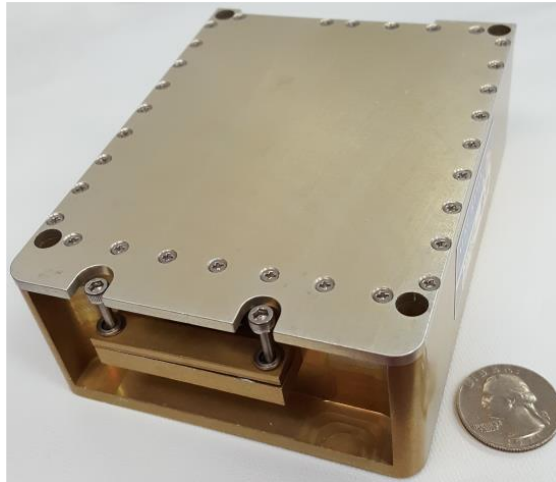

Figure 1: Vampire offers a ruggedized design in a favorable package size.
The Vampire hardware, shown in Figure 1, decodes the bus controller (BC) / remote terminal (RT) interaction and transmits the information over the Ethernet connection. For efficiency, one Ethernet packet is transmitted from Vampire for every eight MIL-STD-1553 BC/RT interactions. Vampire also creates high precision timestamps for the BC and RT traffic. Each BC message has a timestamp resolution of 5 nanoseconds (ns) which is 4x the industry standard. The RT response also has a resolution of 5 ns which is 20x the industry standard. To protect the avionics busses, Vampire performs as a one-way device. Vampire is not capable of transmitting MIL-STD-1553 packets and is unable to receive Ethernet data.